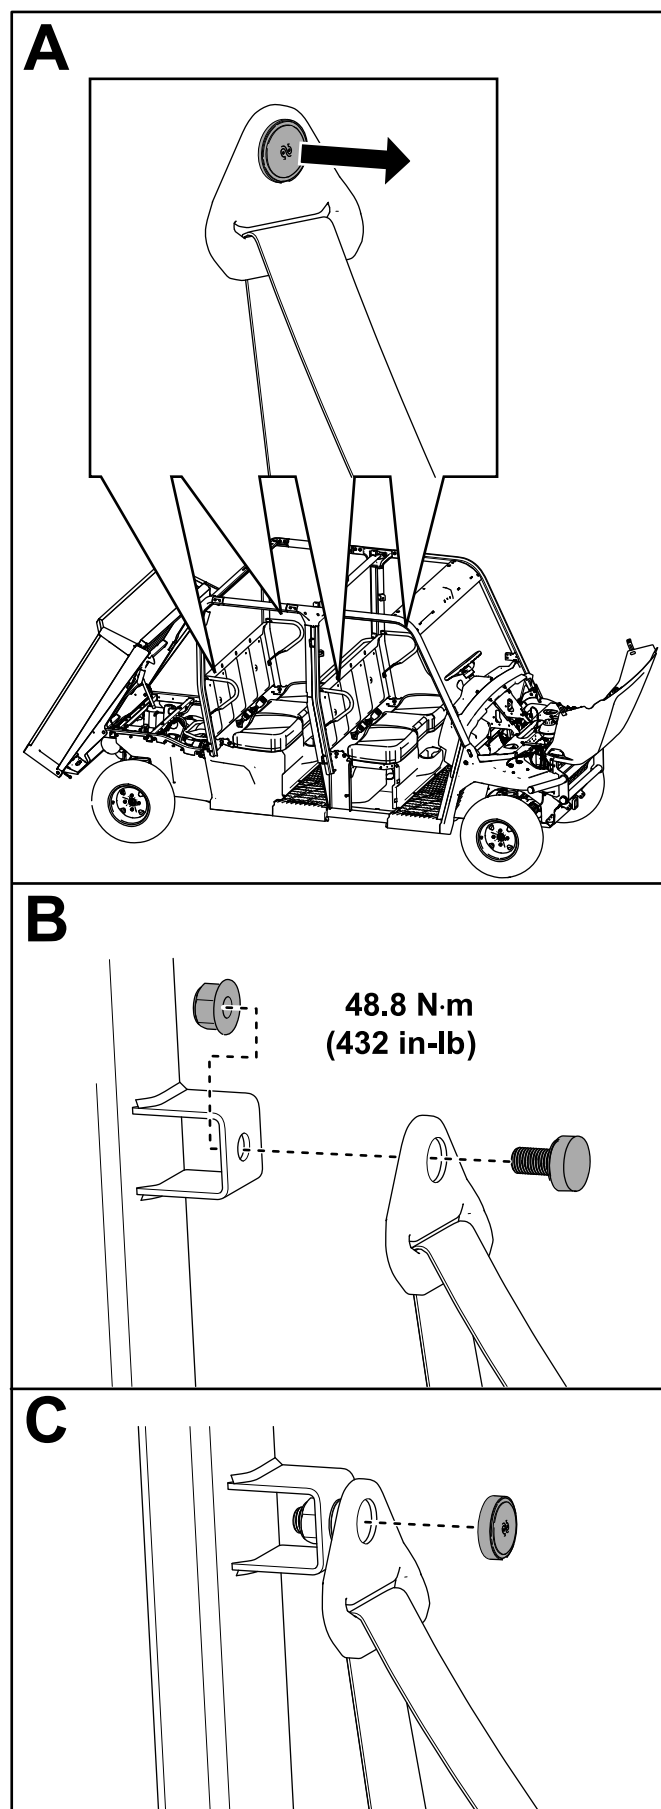

Figure 60
- A. Remove the cap from the top portion of the seat belt (Figure 60).
- B. Insert seat belt into the roll bar seat belt bracket and secure the seat belt using a locknut (7/16 inch) as shown in Figure 60.
Torque the locknut (7/16 inch) to 48.8 N·m (432 in-lb) as shown in Figure 60.
- C. Install the cap (Figure 60).